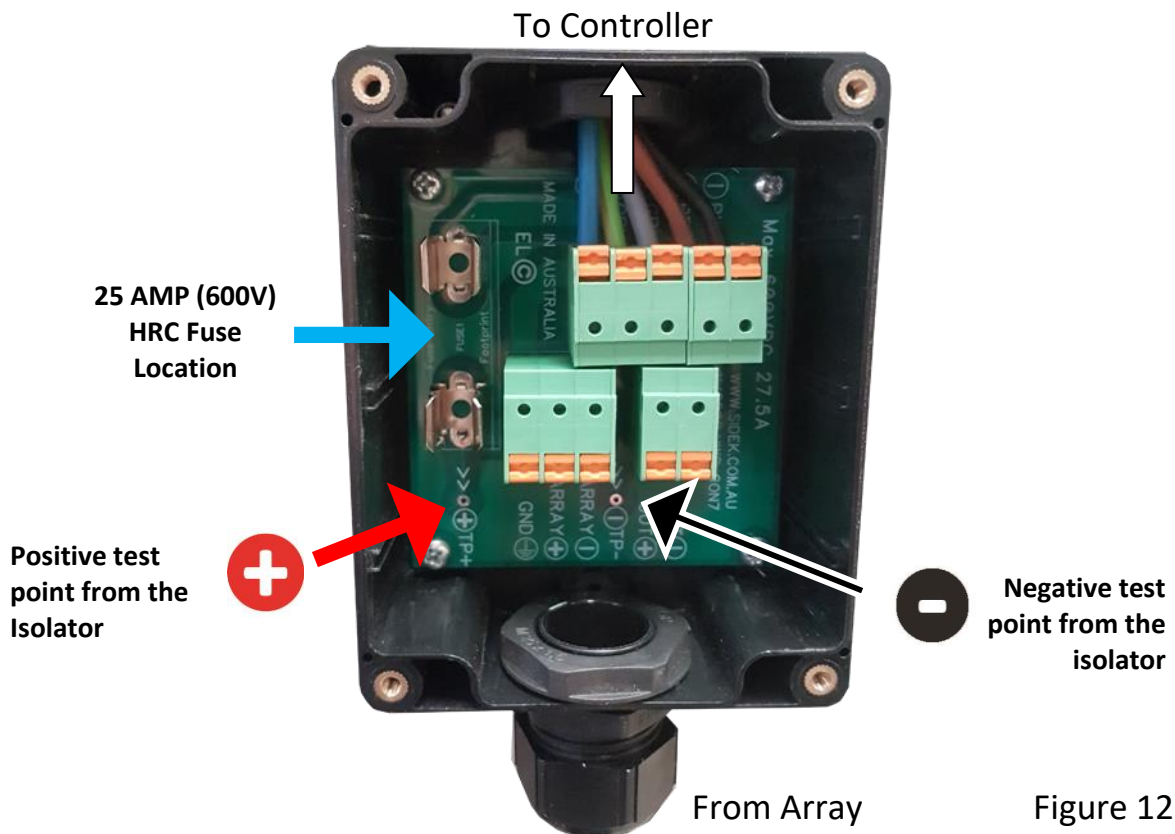

Figure 12
7. Ensure Polarity on the connections is correct. TEST the polarity at the test point located on the connection board (figure 12) **BEFORE INSTALLTION OF THE 25AMP (600V) HRC FUSE**. Ensure to connect the earth from the connection board to the earth point from the main array frame within the Isolator.